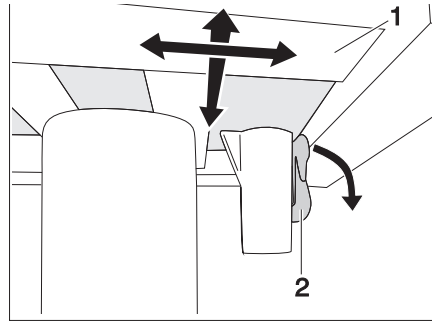

Fig. 98 Lock single-column table (locked)
- Push the locking lever (Fig. 98,2) down.
- Move the table-top (Fig. 98,1) to the desired position.
- Press the locking lever (Fig. 98,2) back upwards.